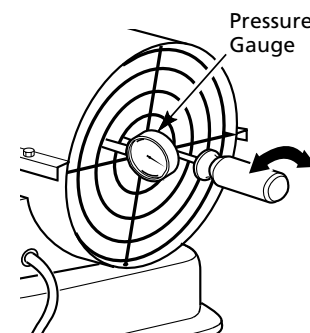

Figure 9 - Adjusting Pump Pressure
- Install accessory pressure gauge (Part Number HA1180) (See Figure 9).
- Adjust pressure to 6.2 psi. Turn relief valve to right to increase pressure. Turn relief valve to left to decrease pressure (See Figure 9).